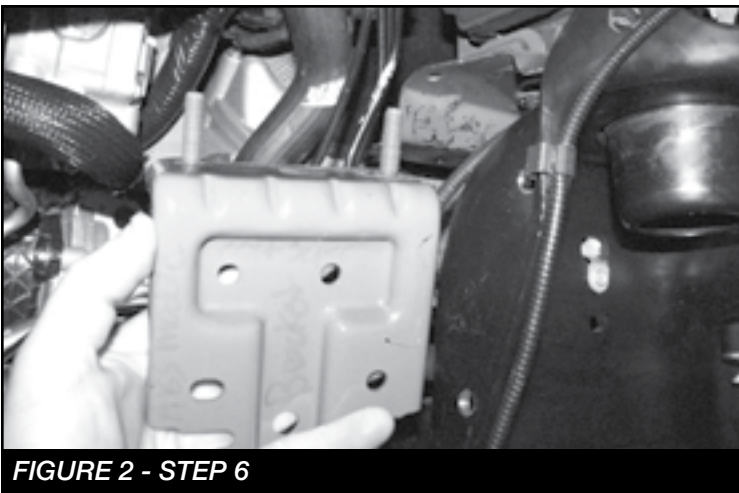

FIGURE 2 - STEP 6
6. **(DRIVER SIDE ONLY)** Remove the driver side inner fender liner. Locate the ABS module mounted to the factory spring perch. Remove and save the bolt attaching the bracket to the front of the spring perch. Using a 13mm wrench remove the (2) nuts that attach the L bracket together. Then using the same 13mm wrench remove the nuts attaching the same bracket to the back side of the factory spring perch. Discard the factory bracket and save the hardware. **SEE FIGURE 2**